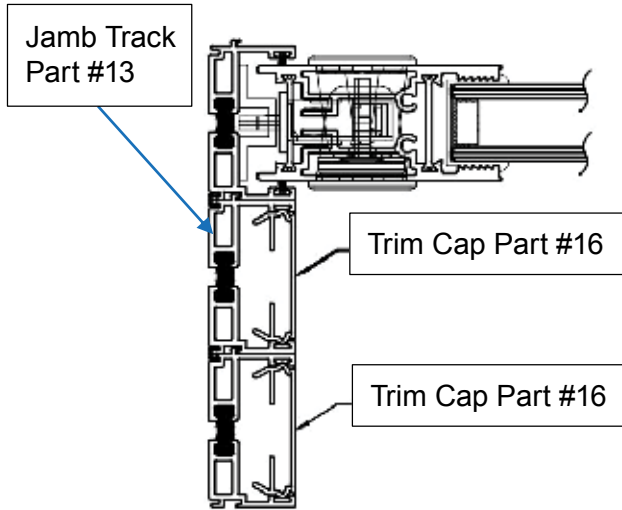

FIGURE 1
23. Install the longest trim cap pieces (Part #16) into the exterior and center jamb tracks (Part #13) on the operable side as shown in Figure 1 then install the other two trim caps that are the same length into the interior and center jamb tracks shown in Figure 2.